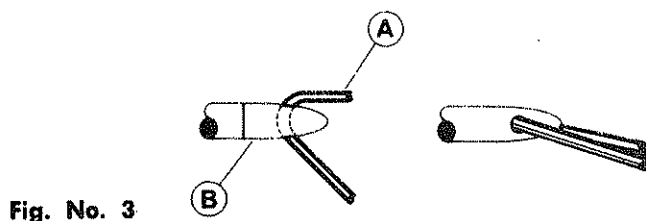

Fig. No. 3
APPLICATION — THE ANTENNA (A) IS CONNECTED TO THE FEED-THROUGH INSULATION ITEM 1, AND ROUTED VIA THE VERTICAL STABILIZER BY THE USE OF THE INSULATED TENSION UNIT (B), AS SHOWN IN FIG. NO. 3.